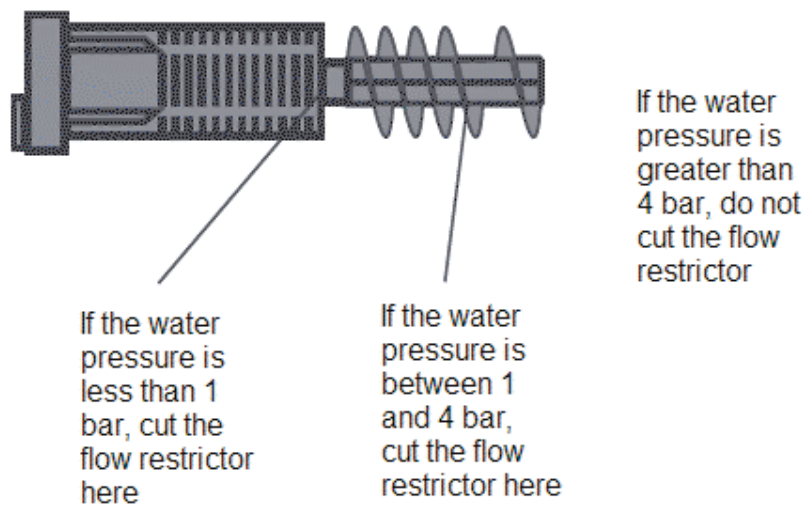

Fig. 14
11. Fit the access panel (M) onto the front of the cistern (B).
12. Using a drill and appropriate bit, drill a hole in the fascia panel of the WC unit or false wall in a suitable position for the push button (A). Secure the push button to the WC unit fascia panel using the shroud and backnut provided.
13. Attach the cable from the flush valve inside the cistern onto the back of the push button (A).
15. The flow restrictor (O) should be inserted firmly into the tail of the inlet valve. The flow restrictor should be cut to size depending on the inlet water pressure. (See **Fig. 14**).